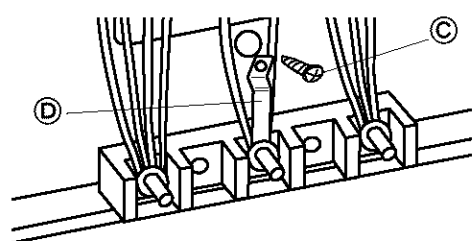

Figure 1
7. Remove the ground-link screw (C) from the range frame. Save the ground-link screw. Bend up the ground link (D) so that it does not contact the range. See Figure 1.